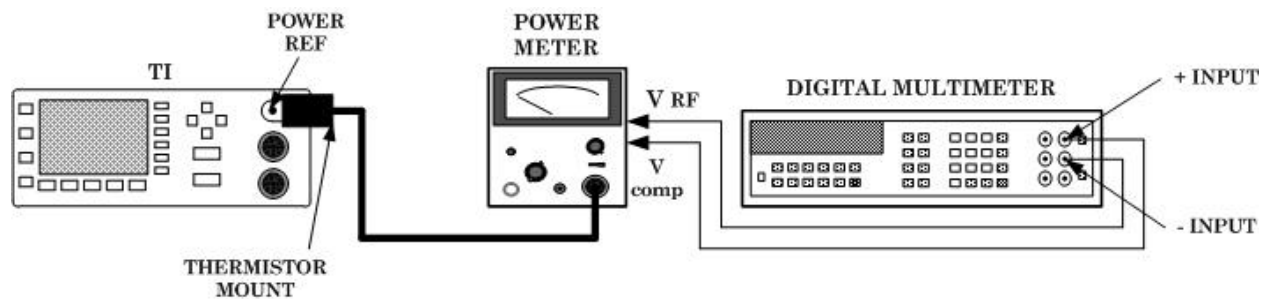

Figure 2. Power reference level - equipment setup.
- (1) Set power meter power **OFF ON** pushbutton to **OFF** position.
- (2) Disconnect thermistor mount from power meter interconnect cable.
- (3) Connect digital multimeter (resistance mode) between V_{RF} terminal center conductor on power meter (rear panel) and pin 1 of thermistor mount end of power meter interconnect cable.
- (4) Round off digital multimeter indication to two decimal places and record this value as power meter internal bridge resistance R (value will be approximately 200Ω).
- (5) Connect thermistor mount to power meter interconnect cable.
- (6) Connect equipment as shown in figure 2.
(17) Press TI **Zero Cal**, [**Cal**], **More**, [**Power Ref On**] keys. Record digital multimeter indication, (rounded off to two decimal places), as V_1 .
(18) Disconnect digital multimeter negative lead from power meter V_{RF} (fig. 2) and connect digital multimeter negative lead to power meter chassis ground. Record digital multimeter indication as V_{COMP} .
(19) Calculate the **POWER REF** output level PRF from the below listed formula:
(4) Connect digital multimeter (resistance mode) between V_{RF} terminal center conductor on power meter (rear panel) and pin 1 of thermistor mount end of power meter interconnect cable.
(5) Round off digital multimeter indication to two decimal places and record this value as power meter internal bridge resistance R (value will be approximately 200Ω).
(6) Connect thermistor mount to power meter interconnect cable.
(7) Connect equipment as shown in figure 2.
(8) Press **Preset Local**, [**Confirm**] keys.
(9) Set power meter **RANGE** switch to **COARSE ZERO** and adjust front panel **COARSE ZERO** control for a zero meter indication.
(10) Fine zero power meter on most sensitive range then set power meter **RANGE** switch to **1 mW**.
(11) Ensure digital multimeter input terminals are isolated from chassis ground for (12) below.
(12) Adjust digital multimeter (dc mode) controls to measure microvolts.
(13) If digital multimeter indication is $400 \mu V$ or less, record digital multimeter indication and proceed to (15) below; if not, proceed to (14) below.
(14) Hold power meter **FINE ZERO CONTROL** and adjust **COARSE ZERO** control for a digital multimeter indication $200 \mu V$ or less. Record digital multimeter indication.
(15) Round off indications recorded in (13) or (14) above to two decimal places and record this value as V_0 .
(16) Set power meter to highest range.
(17) Disconnect digital multimeter negative lead from power meter V_{RF} (fig. 2) and connect digital multimeter negative lead to power meter chassis ground.
(18) Press **TI Zero Cal**, [**Cal**], **More**, [**Power Ref On**] keys.
(19) Round off indications to two decimal places and record this value as V_{COMP} .
(20) Reconnect digital multimeter negative lead to power meter V_{RF} input.
(21) The multimeter is now set up to measure V_1 .
(22) Calculate the required value of V_1 using the following formula: